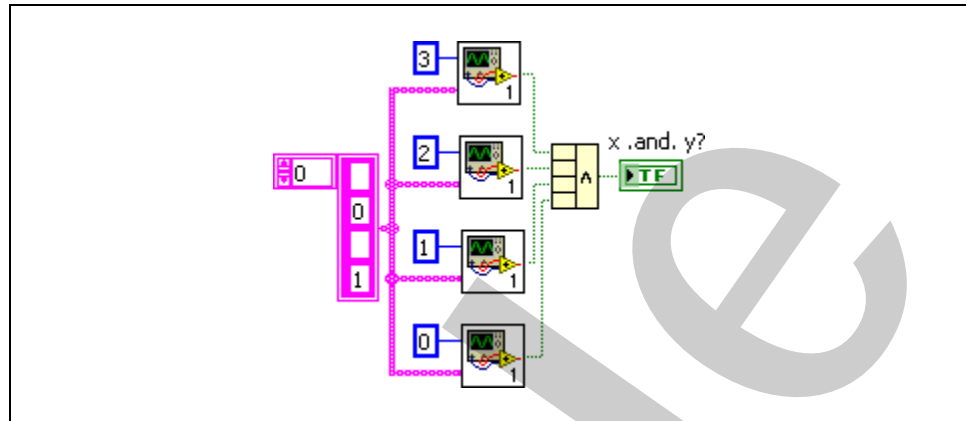

Figure 2-6. Duplicate Code VI with Compound Arithmetic Function
- Wire the block diagram as shown in Figure 2-6.